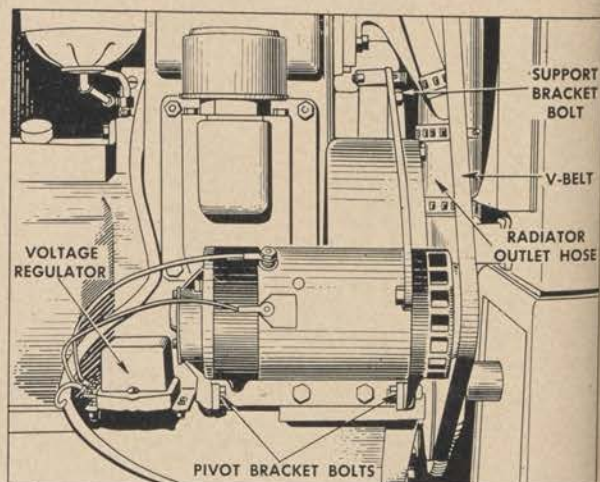
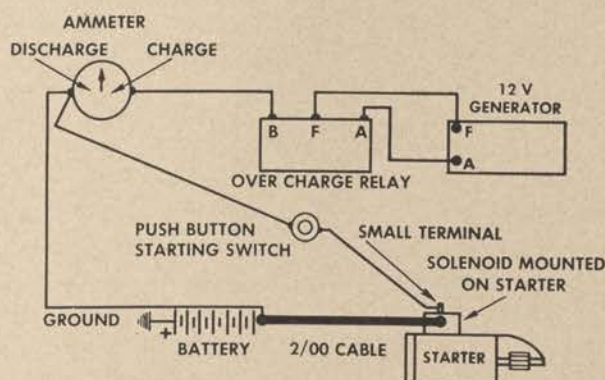

Figure 277. V-belt adjustment.
Figure 280. Wiring diagram of starting system and charging generator.
2. *Adjusting belt.* Adjust the belt by varying the position of the generator. (See fig. 277.) Loosen the generator support bracket nut on the cylinder block, and loosen the generator pivot bracket bolts. (See fig. 277.) Swing the generator from the engine to tighten the belt, or toward the engine to loosen it. Tighten the bolts after obtaining the correct belt tension.
3. *Removing belt.* To remove the belt for servicing the engine, or for replacement purposes, remove the water outlet hose (fig. 277) from the radiator by loosening bolt hose clamps and sliding the hose out of position. Then slip out the belt after loosening the generator, as described in the preceding paragraph.
(b) *Replacing cranking motor.* Remove the wiring connections from the starting motor solenoid to the ammeter, battery, and starting switch. Withdraw the bolts holding the starting motor flange to the engine flywheel housing. Install the new starting motor and make the connections to the battery, starting switch, and ammeter. Refer to figure 280 for wiring diagram showing the cable connections in the electrical system.
The generator is of a 2-pole, 2-brush construction with output controlled by a separately mounted current and voltage regulator shown in figure 277.
(b) *Replacement of generator.* Disconnect the leads from the generator to the voltage regulator and battery in accordance with wiring diagram. (See fig. 280.) Procedure for removal of the generator is described under "Adjusting fan belt" ((10)(c) above). Additional bolts holding the generator to the engine block are indicated in figure 277.